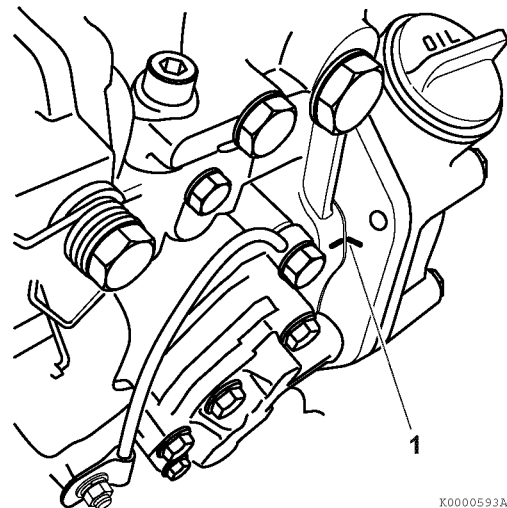

Figure 7-27
- Align the reference marks (1, **Figure 7-27**) previously made on both the fuel injection pump mounting flange and gear case or front plate.